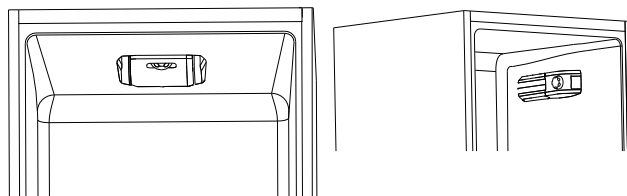

Fig.4
• The thermostat unit for control of the appliance is located inside of the refrigerator compartment (Fig.4).